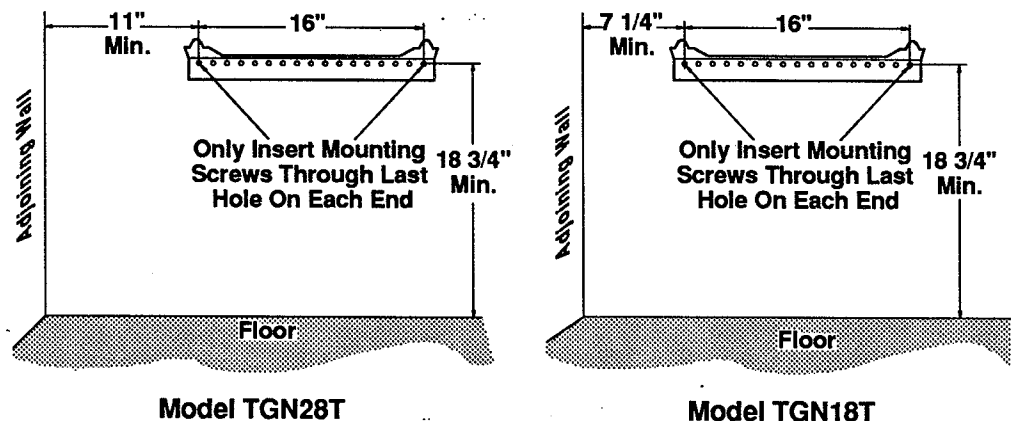

Figure 6 - Mounting Bracket Clearances
Maintain minimum clearances shown in Figure 6. If you can, greater clearances should be provided from floor and joining wall.
2. Mark screw locations on wall (see Figure 6).